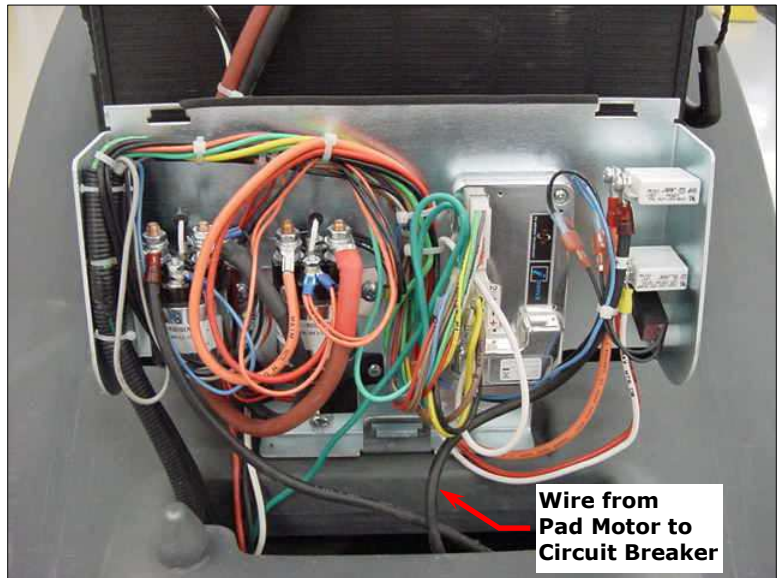

Figure 22 – Wire from Pad Motor to Circuit Breaker
16. See Figure 22. Run the machine and measure the pad motor current draw using an amp clamp around the wire running from the pad motor to the circuit breaker.